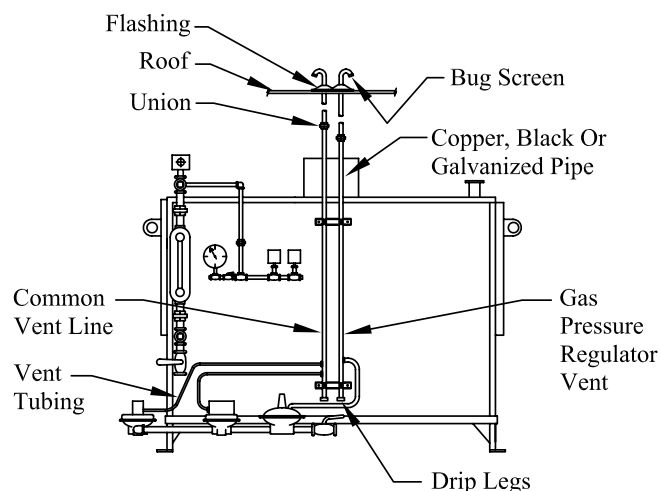

Figure 5
7. **NOTICE** Always terminate vents away from air intakes or sources of ignition. Be sure that moisture and insects cannot enter the vent pipes. Always utilize a drip leg to keep moisture from traveling back down vent tubing and damaging the diaphragms. See **Figure 5** below: